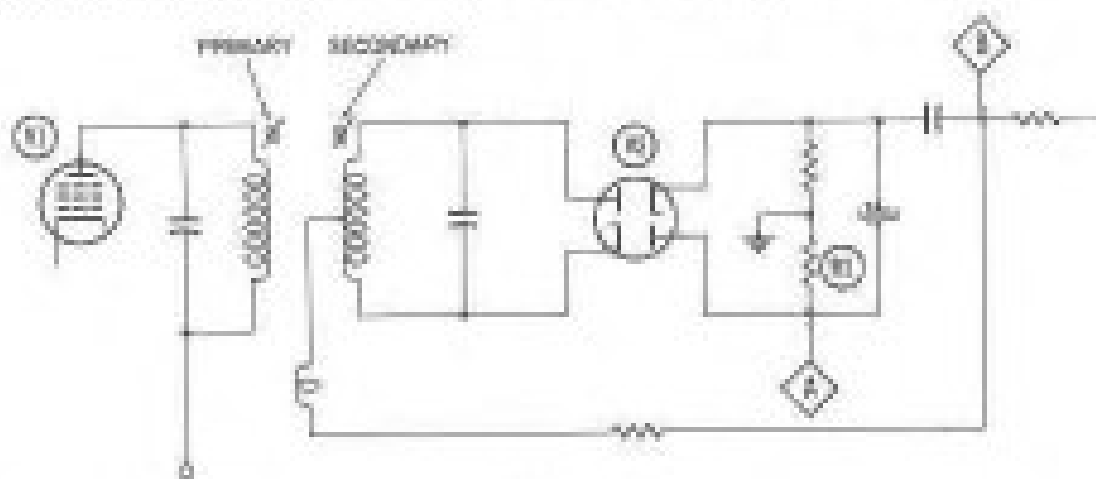

FIGURE 24
A ratio detector circuit (Figure 24) may be aligned by first connecting a VTVM at point A across the load resistor (RL) of the ratio detector diode. The signal generator is then connected to the input grid of the first second IF stage and set to the IF frequency specified for the receiver being aligned. The primary of the ratio detector transformer can now be adjusted for maximum meter deflection on the VTVM. The frequency setting of the signal generator and the connections of the generator to the receiver remain the same for making the adjustment of the transformer secondary. The VTVM is connected across the output of the detector stage (Figure 24) at Point B and ground. The secondary is then adjusted for zero reading on the VTVM.